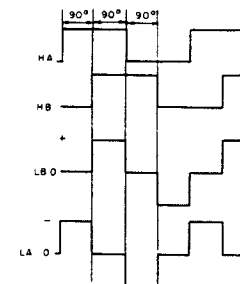

Fig. 5-8 Drive circuit waveforms
2. The position sensing signal produced by the Hall elements are each output to the block diagram position signal synthesizing circuit, and their waveforms are shaped as shown in Fig. 5-8.
3. The staircase waves are each input into the block diagram 4-phase drive circuit, and as shown in Fig. 5-8, LA and LB alternate back and forth in a 90° duty cycle (voltage) to turn the motor.